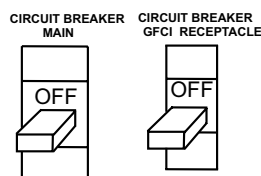

Figure 52. GFCI and Main Circuit Breaker (OFF)
1. Place both the **MAIN** and **GFCI** circuit breakers to the "OFF position" (Figure 52).